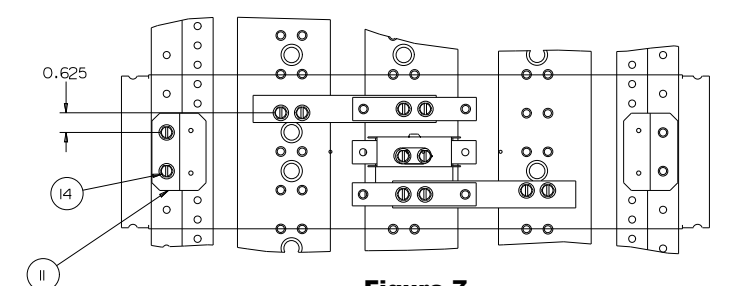

Figure 7
8. Reference fig. 7 - The mounting brackets (item 11) are to be mounted. Locate a 0.228" diameter hole on the left Z-rail 5/8" below the mounting screws of the A-phase strap. Insert one 1/4-20 X 3/8" screw (item 14) through the 0.312" diameter hole in the mounting bracket and then into the hole in the Z-rail and tighten. Orient the mounting bracket as shown, insert another 1/4-20 X 3/8" screw through the second 0.312" diameter hole in the mounting bracket and then into a 0.228" diameter hole in the Z-rail and tighten. Repeat the same steps to install the second mounting bracket onto the right hand Z-rail. Tighten screws securely.